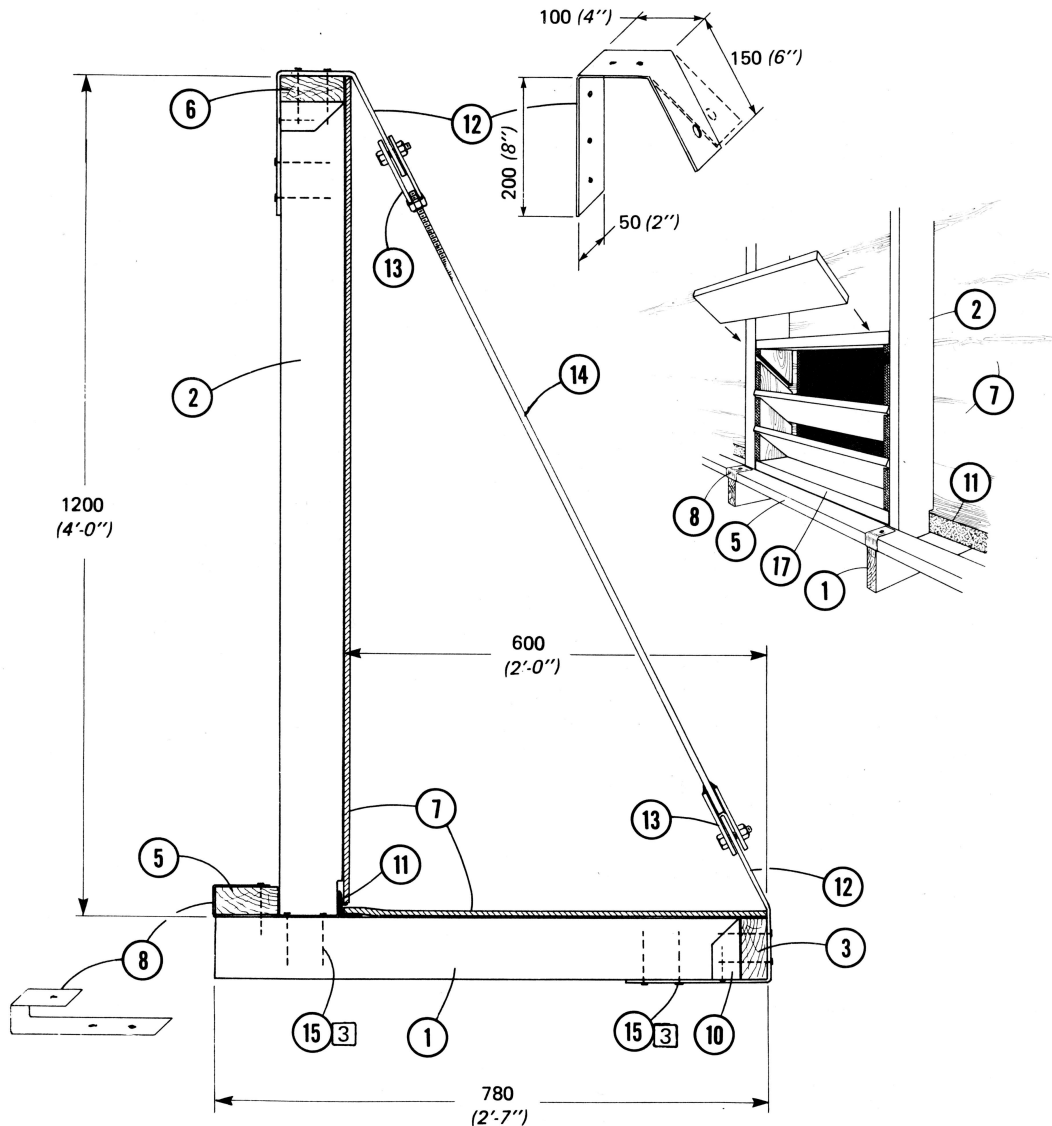

Figure 2 Section showing connections between floor and wall parts
Figure 2 shows the critical dimensions, the fastenings, the tie-down hardware and the end cap board (3) which makes the floor sleepers load-sharing.